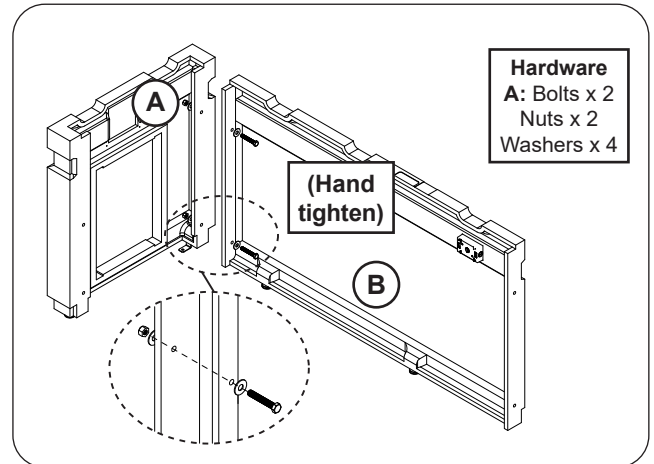

Fig. 8-2 Assemble left side and rear wall
1. Orient the left side wall (A) and rear wall (B) as shown. Carefully align the pilot holes, and insert the hardware (hardware kit A) in the order shown. Hand tighten only. See Fig. 8-2.